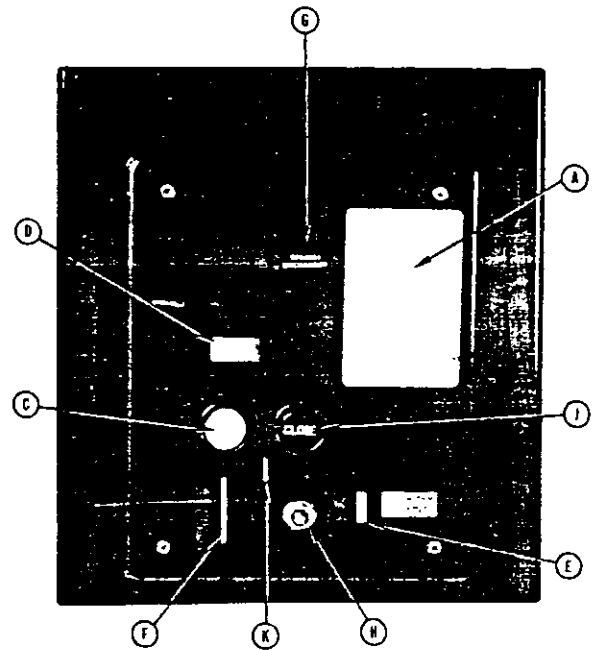

Fig. 2-Escutcheon for Electrically Operated K-225 to K-2000 Circuit Breakers.
The controls for the electrically operated circuit breakers, Fig. 2, are the same as the manually operated circuit breakers except for the absence of the manually operated handle and the presence of (g) closing spring charging indicator (h) cutoff-switch for the motor electrical circuit, (j) electrical close push button switch and (k) manual close lever.
(G) CLOSING SPRING CHARGE INDICATOR (Figs. 2 & 3)
(H) MOTOR CUT-OFF SWITCH (Figs. 2 & 3)
(J) ELECTRICAL CLOSE PUSH BUTTON (Figs. 2 & 3)
(K) MANUAL CLOSE LEVER (Figs. 2 & 3)